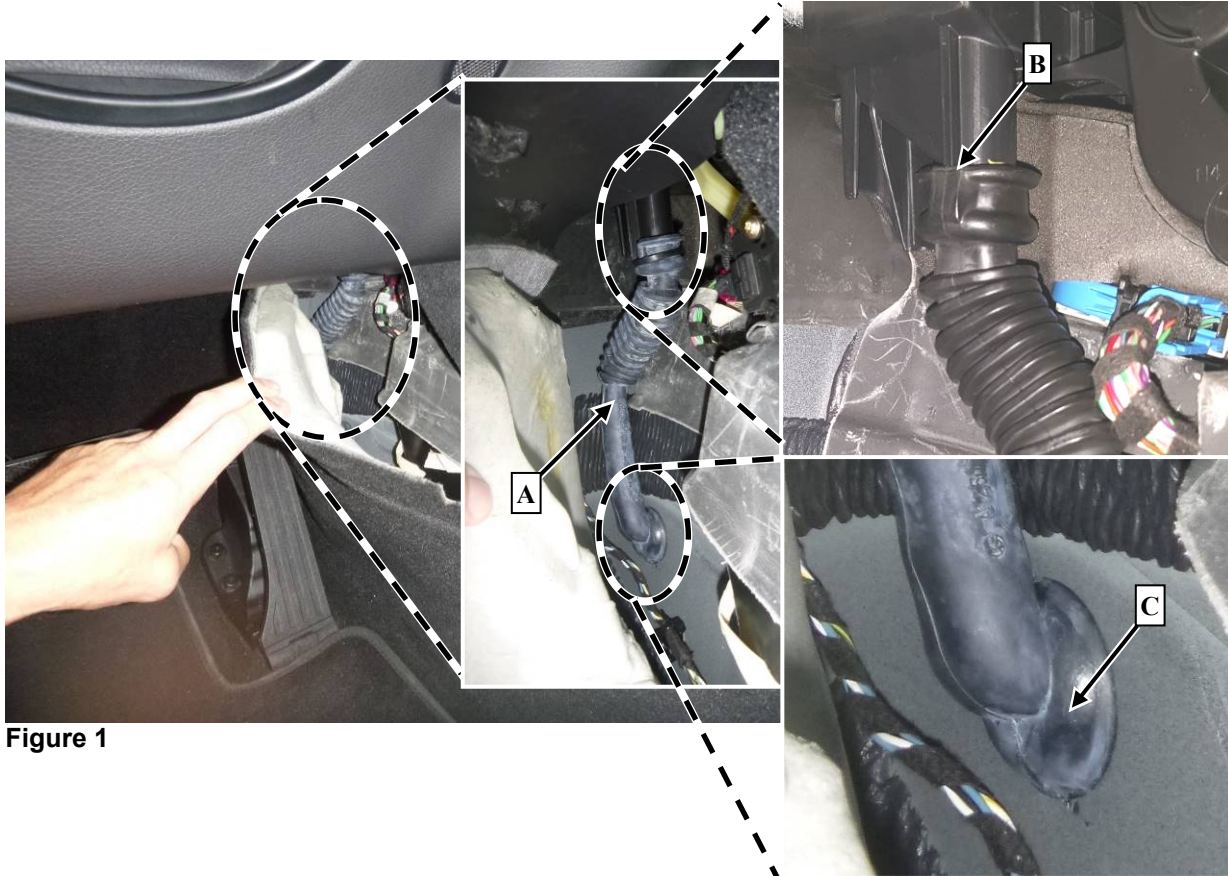

Figure 1
1. Release floor covering in footwell on driver's and front passenger side and check condensation drain hose at right and left of air conditioning system (**Figure 1**).
- i** The condensation drain hose must be installed without creases, in proper contact, and inserted correctly on the heater box or tunnel (**C, Figure 1**).
- i** The cutout (**B, Figure 1**) must be positioned correctly on the fitting of the heater box.